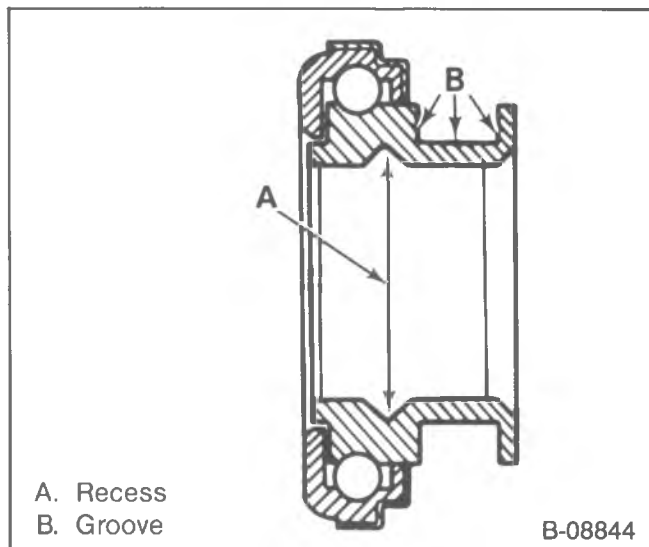

Figure 13—Release Bearing
- Pack the ball stud seat from the lubrication fitting (A) on the flywheel housing (207) (R-V models only).
- 6. New retainer (211) if needed.
- 7. Release bearing (212), the clutch fork (200) and the boot (210).
- Pack the inside recess (A) and the outside groove (B) of the release bearing (212) with high temperature grease as shown, (figure 13).
- 8. Flywheel housing (207) and the screws (216).
- 9. Cover (215) and the screws (216).